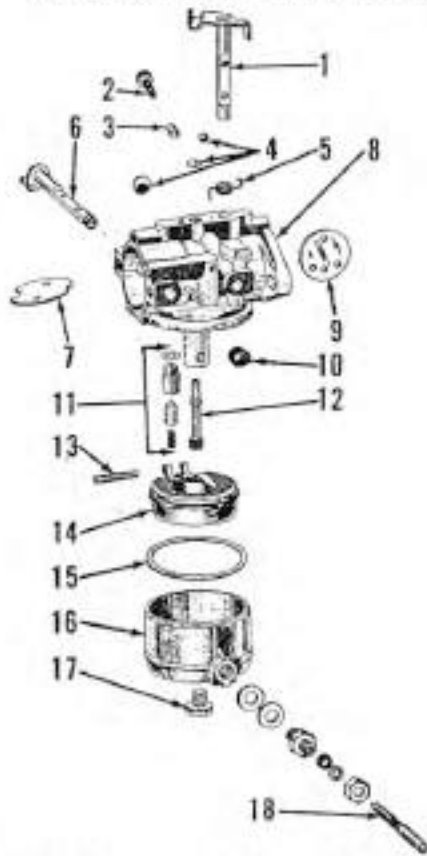

Fig. Mc100—Exploded view of the Carter N type carburetor used on early models.
Carter Type N (Before 1960): Refer to Fig. Mc100. Carburetors are provided with two mixture adjustment needles. The idle mixture needle (2) and high speed adjustment needle (18) should both be initially adjusted to approximately 3/4-turn open, then readjusted under load for best performance after motor is warm. Both carburetors on two cylinder models or all three carburetors on three cylinder models must be adjusted for equal performance. Clockwise rotation of the needle leans the mixture. Readjust the idle mixture needle for smoothest and fastest idle speed whenever a major adjustment is made of high speed needle. Recheck high speed setting after adjusting idle mixture.